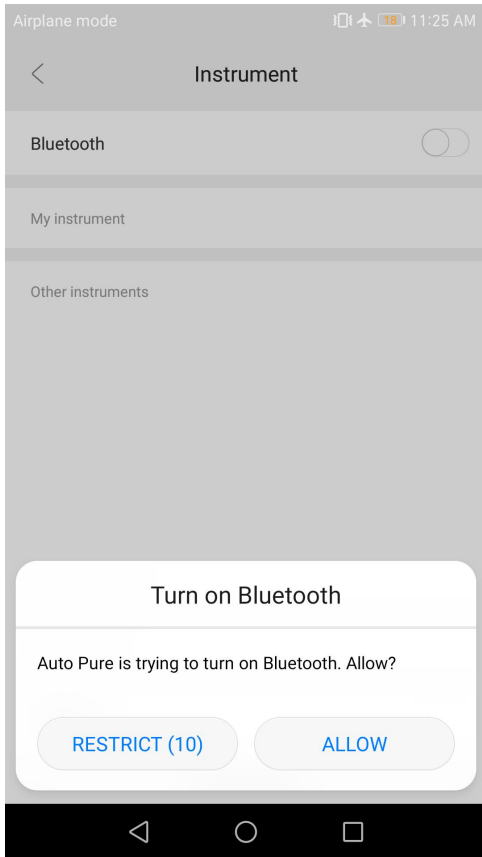

Fig 40 Bluetooth on prompt
- ① When Bluetooth is not turned on the mobile device, a prompt box will appear when Bluetooth is enabled in the APP, as shown in figure 40;
- ② When the Bluetooth is turned on on the mobile device, the APP can directly open the Bluetooth.